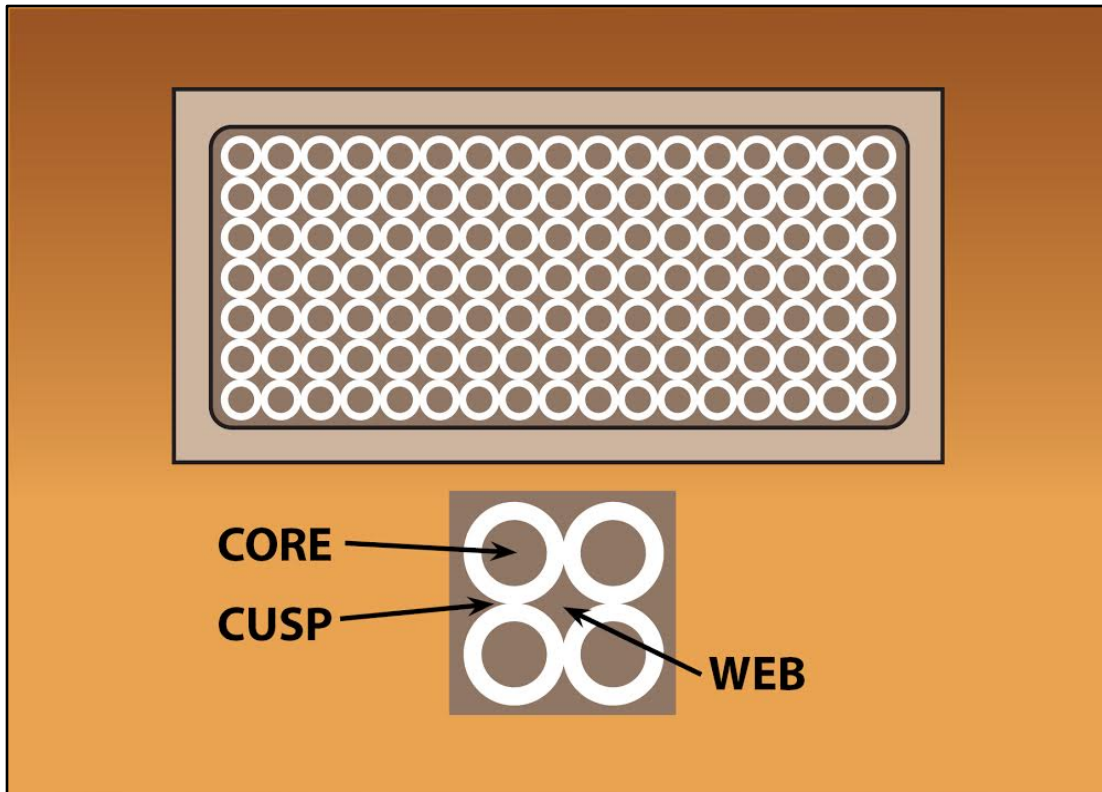

Figure 9. Egyptian trepanning
- High-speed machine tools were used inside the granite Sarcophagus (apparent from remaining machine/tool marks). One type of tool that was used and is clearly evident was tube-drills used to hollow out the interior of the granite box. This is referred to as "*trepanning*." To grasp the significance of that statement, let's briefly look at how the Egyptians powerfully used this system. In order to hollow out the interior of the solid granite box, masons would drill systematic holes (cusp) around the area to be removed with 18-inch hollow core tubular drills (Figure 9). After tubular drilling the appropriate area of the box, there would be cores and webs that would need to be removed. Following their removal, any irregularities would then be *machined* away until the surface was *perfectly flat*. As a result, the walls and floor would be finished to an accuracy